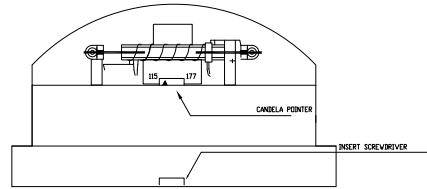

Figure 5:
- 6.To move selector switch, insert screwdriver into slot shown on the bottom side of the strobe. See Figure 5.
- 7.Mount the chime mounting plate to the backbox with the cone protector on. After the chime mounting plate is attached to the backbox, remove the cone protector before installing the grille. Next, attach the grille to the chime mounting plate and attach with (2) screws.
**⚠WARNING: A SMALL POSSIBILITY EXISTS THAT THE USE OF MULTIPLE STROBES WITHIN A PERSON’S FIELD OF VIEW, UNDER CERTAIN CIRCUMSTANCES, MIGHT INDUCE A PHOTO-SENSITIVE RESPONSE IN PERSONS WITH EPILEPSY. STROBE REFLECTIONS IN A GLASS OR MIRRORED SURFACE MIGHT ALSO INDUCE SUCH A RESPONSE. TO MINIMIZE THIS POSSIBLE HAZARD, COOPER NOTIFICATION STRONGLY RECOMMENDS THAT THE STROBES INSTALLED SHOULD NOT PRESENT A COMPOSITE FLASH RATE IN THE FIELD OF VIEW WHICH EXCEEDS FIVE (5) Hz AT THE OPERATING VOLTAGE OF THE STROBES. COOPER NOTIFICATION ALSO STRONGLY RECOMMENDS THAT THE INTENSITY AND COMPOSITE FLASH RATE OF INSTALLED STROBES COMPLY WITH LEVELS ESTABLISHED BY APPLICABLE LAWS, STANDARDS, REGULATIONS, CODES AND GUIDELINES.**